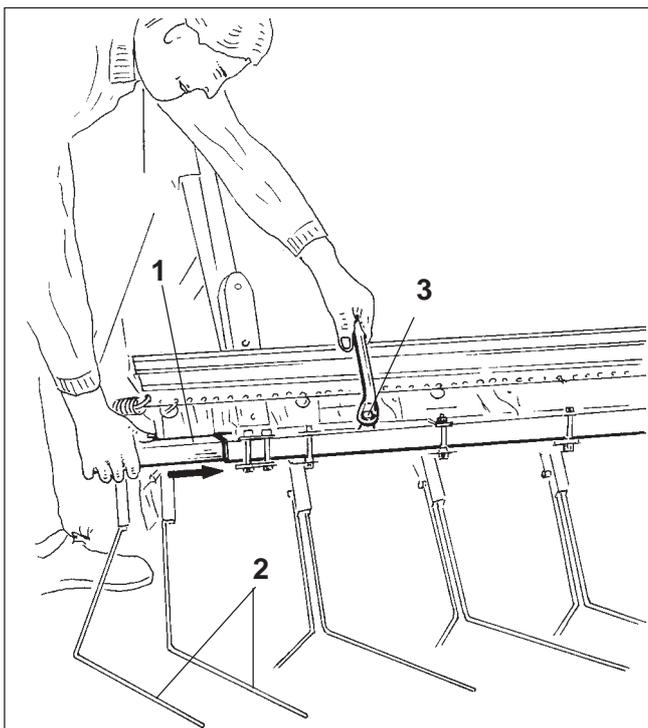

Fig. 24.13
For transport on public roads the outer square tubes (Fig. 24.13/1) with the outer harrow elements (Fig. 24.13/2) should be inserted till the stop into the larger carrier tube. Prior to this slacken clamping bolt (Fig. 24.13/3) and retighten.
In the field the outer harrow elements (Fig. 24.13/2) should be brought back into operational position according to para. 24.2
**Insert outer square tubes (Fig. 24.13/1) all the way to the stop and secure with clamping bolts before transporting on public roads.**